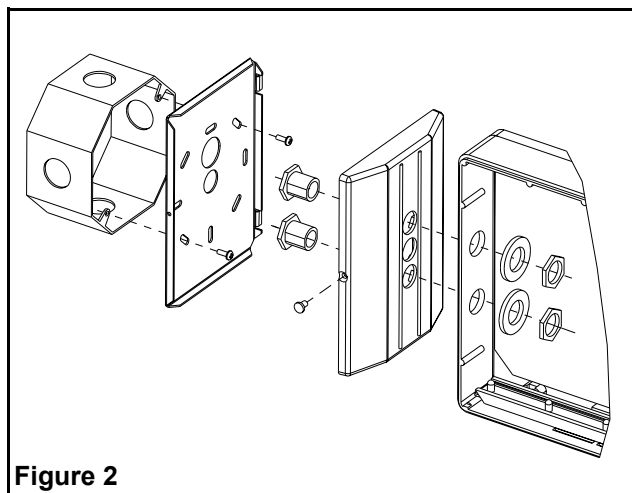

Figure 2
- i. Secure canopy to exit housing using the threaded nipples and nuts provided. Make sure the nipples are inside the canopy and the nuts and washer inside the exit sign (see fig. 2).
3. For Canopy mount only: mount exit/canopy assembly to canopy back plate by guiding the two studs on the canopy plate into the holes in the canopy. Use the securement screw provided to fasten canopy to backplate (see fig. 2).